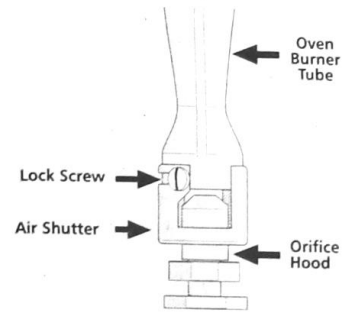

Fig. 18
- If adjustment to the air shutter is necessary, locate the broiler burner air shutter (See Fig. 18), loosen shutter lock screw, and adjust to obtain optimum flame. This will normally be completely open for LP/Propane gas. If the flame is yellow in color, increase the air shutter opening size. If the flame is a distinct blue, but lifting away from the burner, reduce the air shutter opening size. Tighten the shutter set screw.